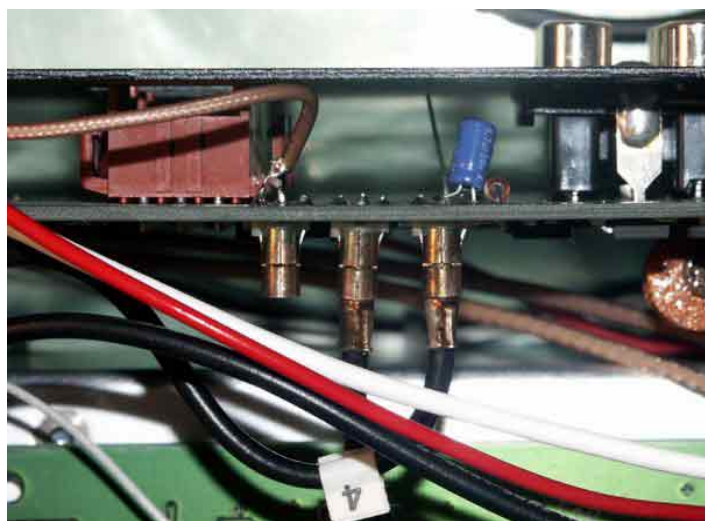

Figure A-4: Spare jack connection
13. The output from the Z10000 buffer was fed through a **existing** zap straps and routed along the front of the rig then down the center run to the rear of the rig. At the rear of the rig the coax was soldered to the rear of the mini coax connector labelled **SPARE**. (Figure A-4 below is **looking down** on the internal connector for the **SPARE** jack. The buffer output is the small brown cable coming in from the upper left.)